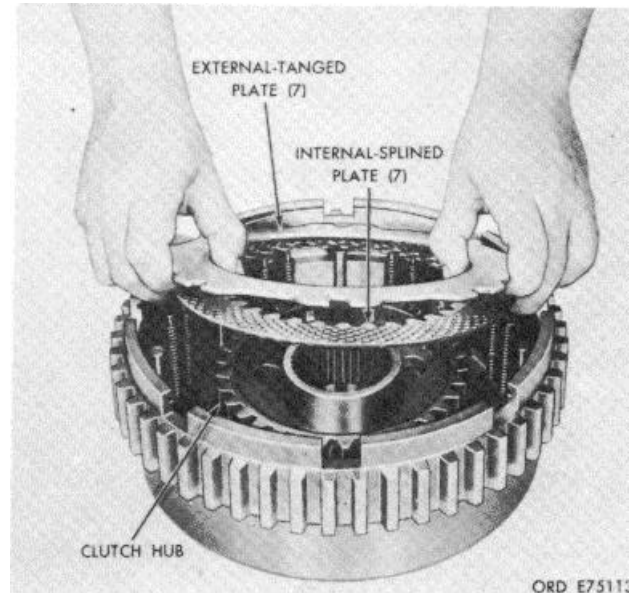

Figure 7-42. Installing output clutch plates.
j. Install the clutch hub, shorter side of hub downward (fig. 7-42).
k. Install, alternately, seven internal-splined and seven external-tanged clutch plates, beginning with an internal-splined plate (fig. 7-42).